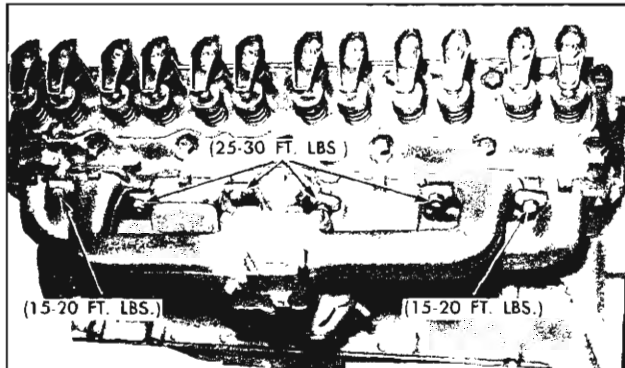

Fig. 7—Manifold Torque Sequence
3. Tighten center clamp bolts to 25-30 ft. lbs. and end bolts to 15-20 ft. lbs. (fig. 7).